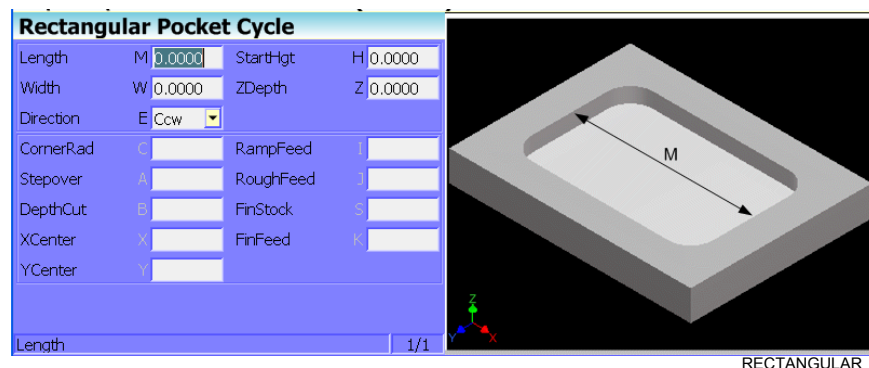

Figure 4-17, Rectangular Pocket Cycle Graphic Menu
2. Highlight **Rectangular** and press **ENTER** to display the **RECTANGULAR POCKET** Graphic Menu. Refer to **Figure 4-17**.